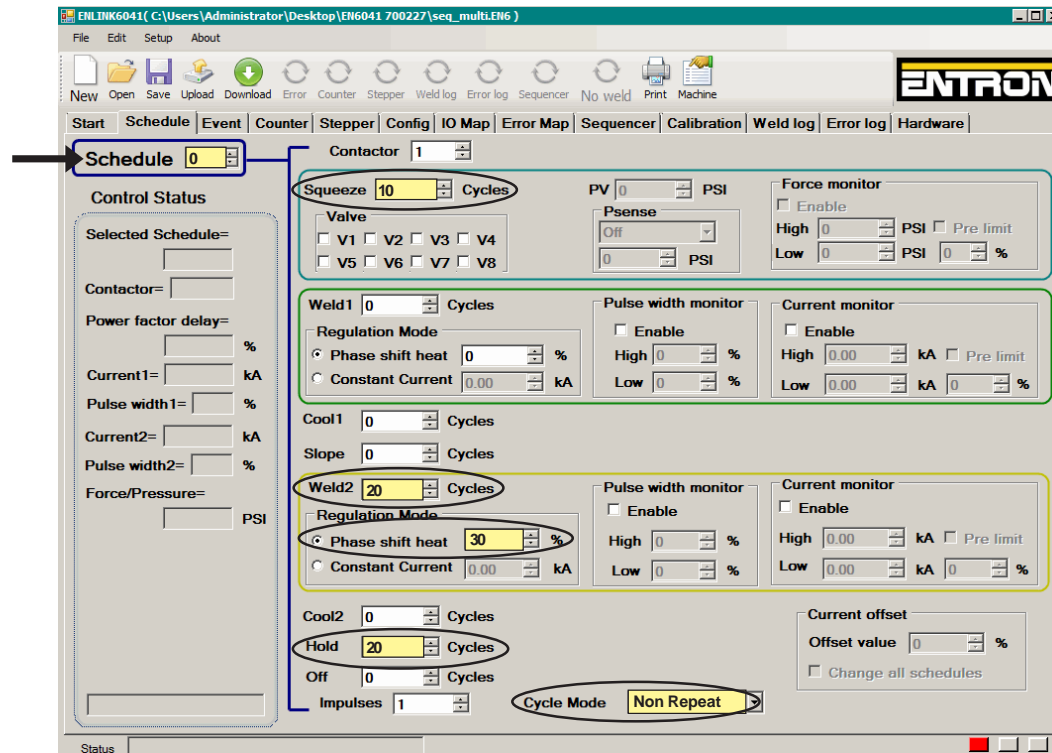

Figure 9-29. Edit SCHEDULE 0
A. Edit SCHEDULE 0 as shown in Figure 9-29.